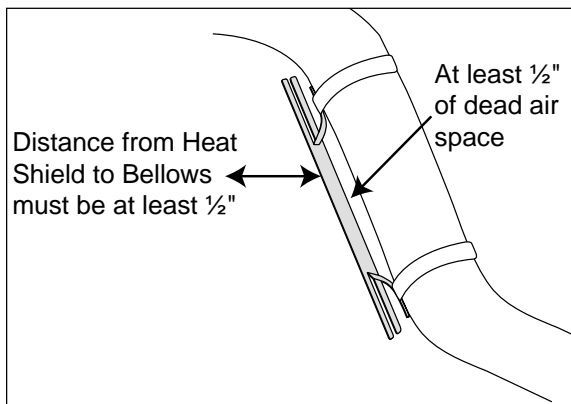

Figure 9
- Attach the heat shield (Q) to the exhaust pipe using the provided clamps (R). See Figure 9. Bend the heat shield for maximum clearance to the air spring.